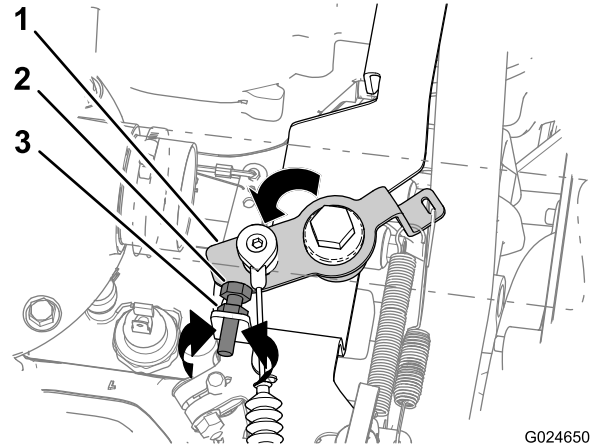
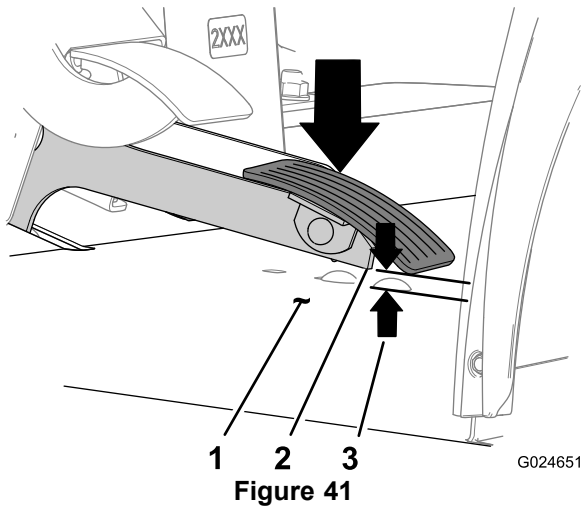

Figure 40
Figure 41
2. Move the bellcrank for the throttle against the fast-idle stop (Figure 40).
- A. Loosen the jam nut that secures the fast-idle stop (Figure 40).
- Clockwise to decrease the engine rpm (Figure 40).
- Counterclockwise to increase the engine rpm (Figure 40).
- C. Tighten the jam nut (Figure 40).
- D. Move the bellcrank against the fast-idle stop (Figure 40).
1. Move the bellcrank against the fast-idle stop and hold it against the stop (Figure 40).
2. Measure the gap between the accelerator pedal and the floor beneath the pedal (Figure 41).
3. If the gap between the accelerator pedal and the floor (Figure 41) is larger than or smaller than 6.35 mm (1/4 inch), perform the following while holding the bellcrank against the fast-idle stop (Figure 40):